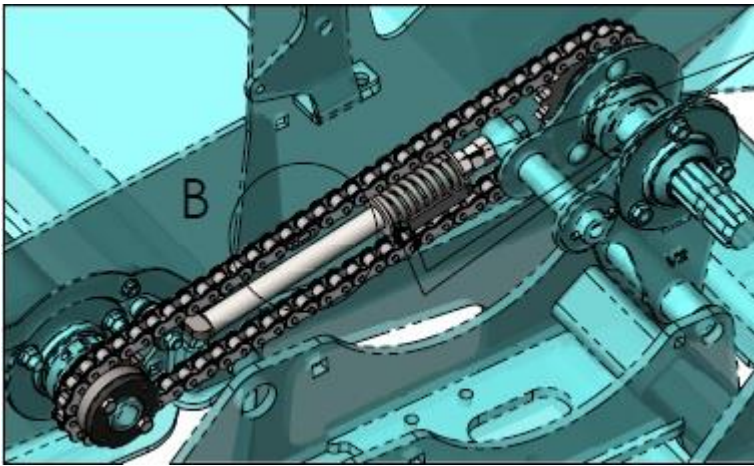

Figure 5
- The kit replaces both styles of belts and belt tension systems. Figure 5